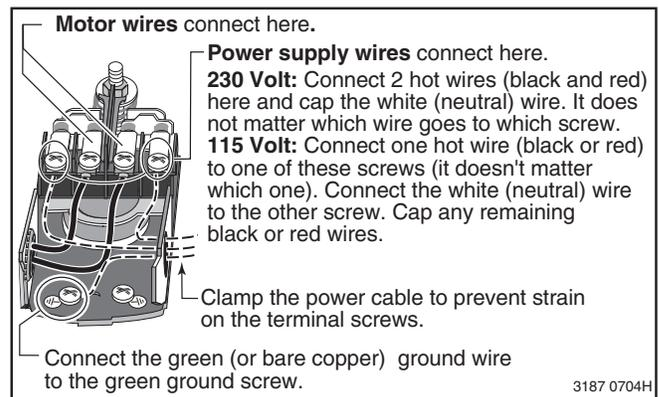

Figure 8: Pressure Switch Wiring
2. Connect the ground wire (the green wire) first. Connect it to ground (see About Grounding, at left) and then to the terminal on the base or the side of the pressure switch marked GROUND, GRD, or ⊕ . There may be two ground terminals; if so, connect to either one. *See Figure 8 for details.*